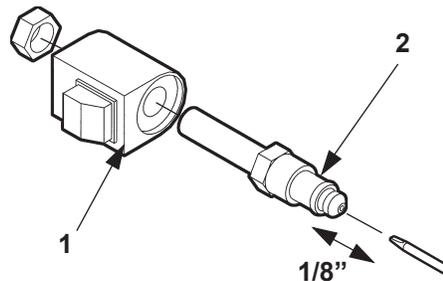

FIG. 54-2
4. Check the valve stem by removing the coil assembly (Item 1, FIG. 54-2). With platform supported, unscrew the valve stem (Item 2, FIG. 54-2) from the pump. Push on the plunger located inside the valve stem by inserting a small screwdriver blade in the end. If the plunger does not move freely (approximately 1/8”) replace the valve stem.